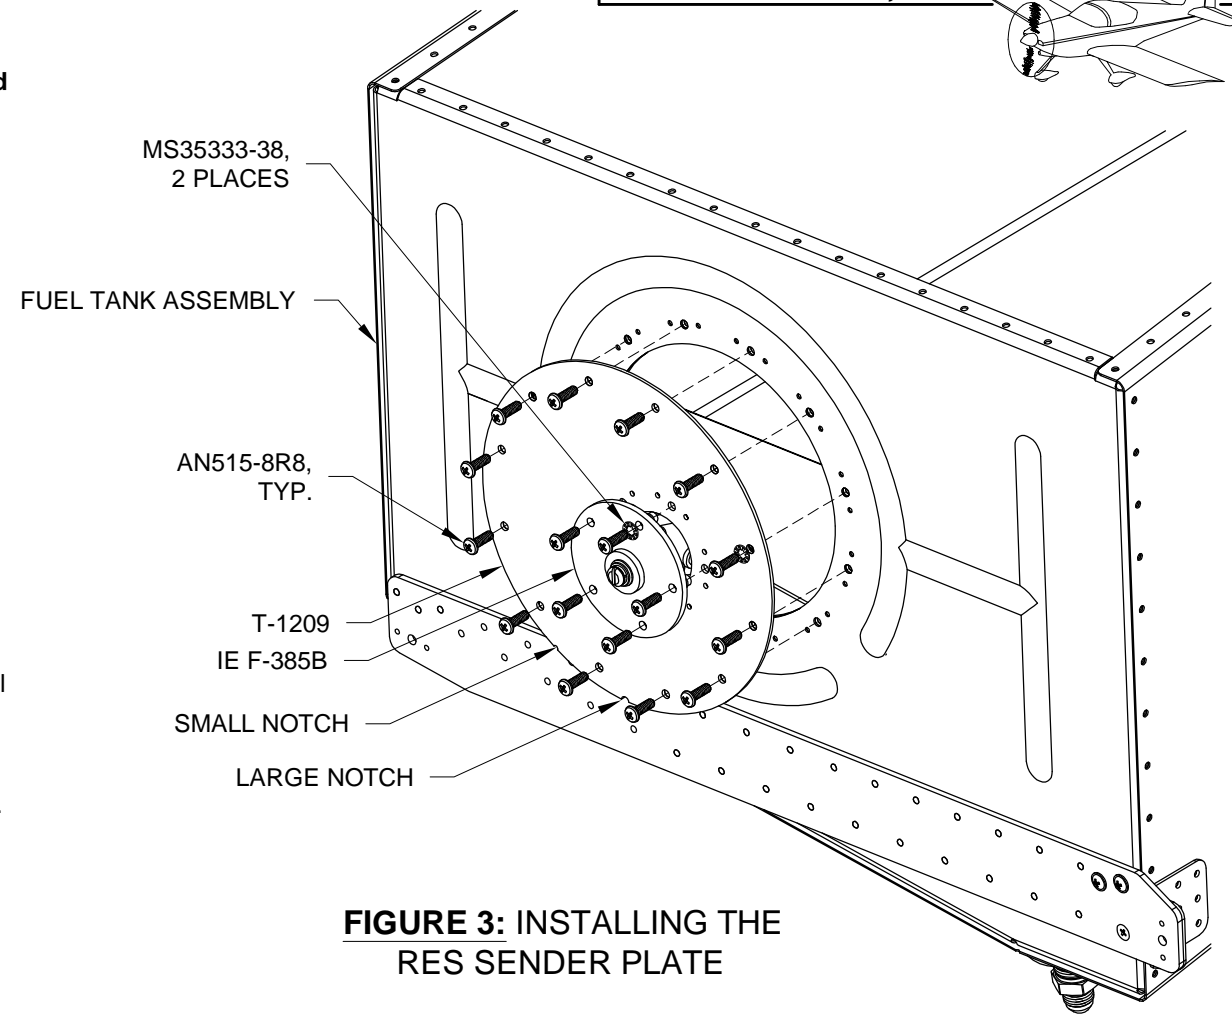

FIGURE 3: INSTALLING THE RES SENDER PLATE
Step 4: Temporarily attach the T-1209 Res Sender Plate and IE F-385 Gasket and IE F-385B Fuel Sending Unit to the Fuel Tank Assembly as shown in Figure 3. Use the notches to orient the sender plate. The small notch will be offset outboard, of the large notch that will be centered at the bottom. Check for clearance between the T-1208 Baffle and the IE F-385B Float Arm. Check and adjust the float arm for proper travel. See Figure 4.